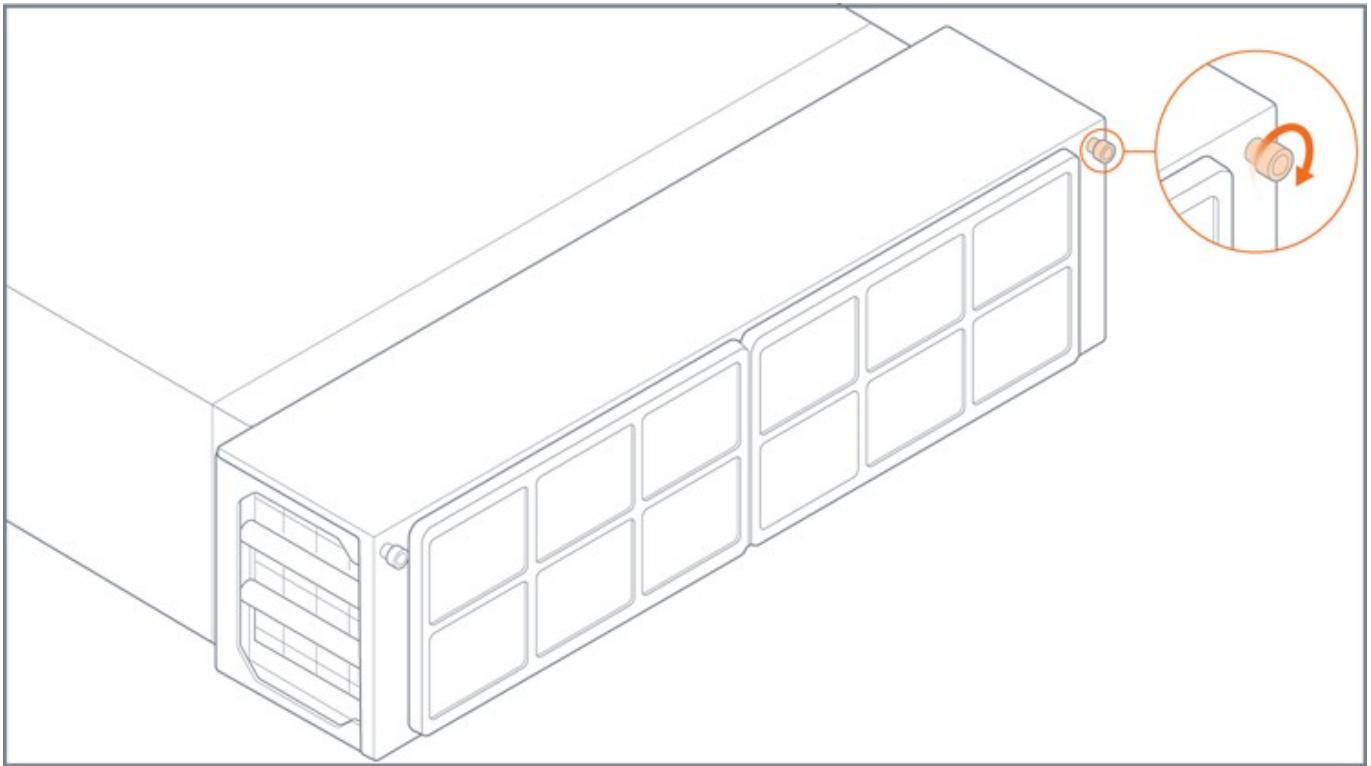

Figure 3-8: External Air Filter
5. Slide the top and front, which contains the external air filter, onto the cable management assembly. Refer to Figure 3-8: External Air Filter